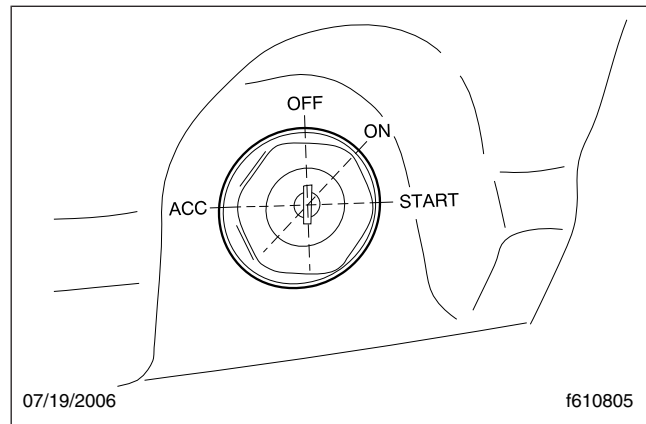

Fig. 25.7, Ignition Switch Positions
4. Ensure that the transmission shift control is in Neutral (N), Park (P), or the Park Brake (PB) position.
5. Without starting the engine, turn the ignition switch to the ON position (Fig. 25.7). The electronic gauges on the instrumentation control unit (ICU) will complete a full sweep of their dials, the warning and indicator lights will illuminate, and the buzzer will sound for three seconds.